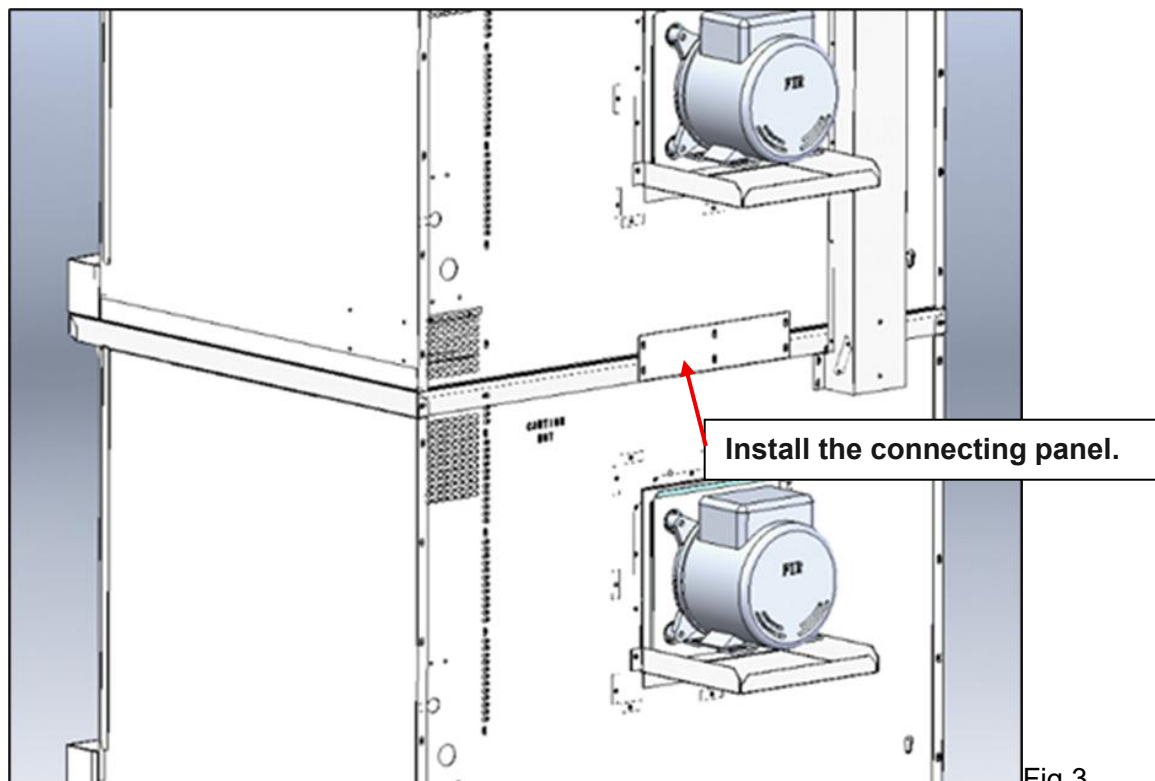

Fig.3
3. Fix the intersection area between the top and bottom appliance with a connecting panel as indicated in Fig.3.